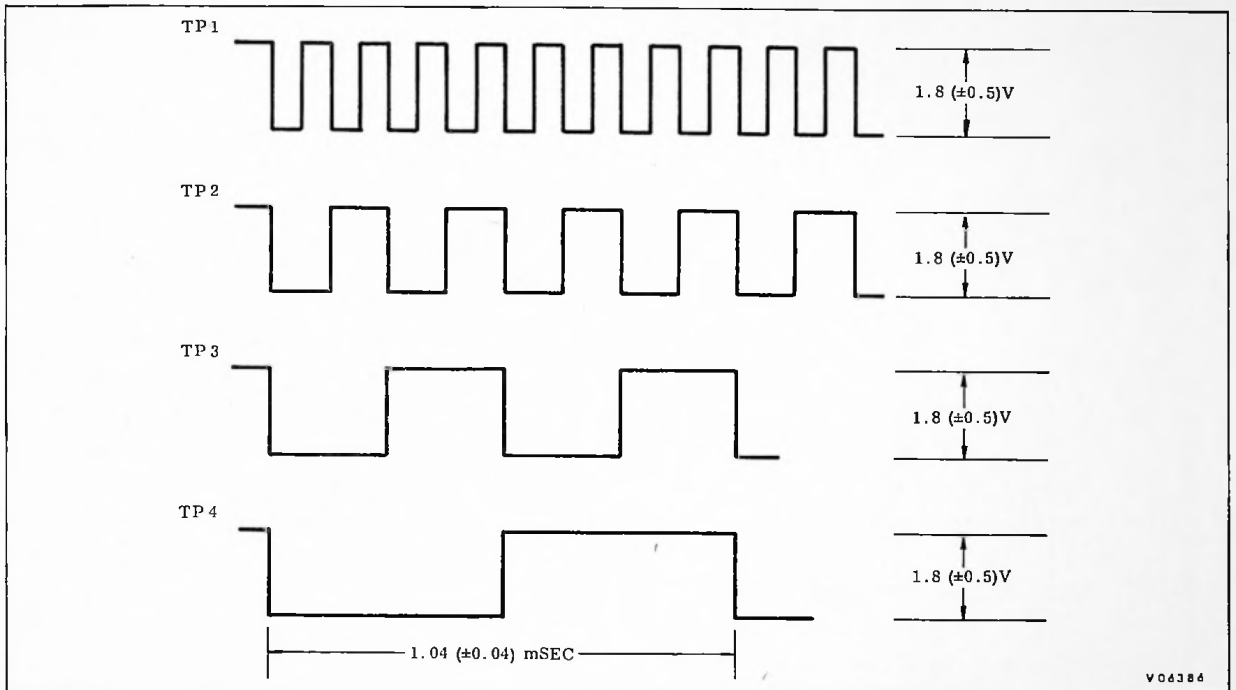

Figure 5.2-7. Line Counter Decoder Output
- a. Externally trigger the oscilloscope (+) from TP012 (system). Connect the probe successively to test points TP1, TP2, TP3, and TP4 (board 5). The waveforms should resemble those shown in Figure 5.2-7.